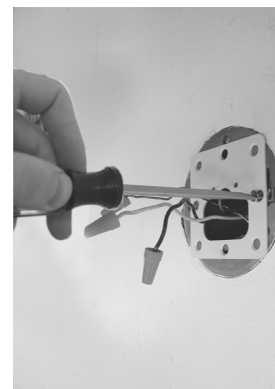

Figure 5
Step 3 Attach the mounting bracket to the outlet box in the lower position first (powered end). Mount so that the pem-nut hardware faces the outlet box. The fixture assembly will attach to the mounting bracket in the final stage of the installation process. (See Figure 5)